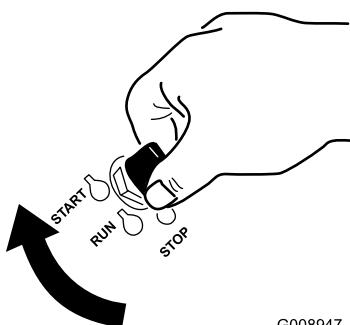

Figure 16
1. Turn the ignition key to the Start position (Figure 16). When the engines starts, release the key.
6. Turn the ignition key to the Start position (Figure 16). When the engines starts, release the key.